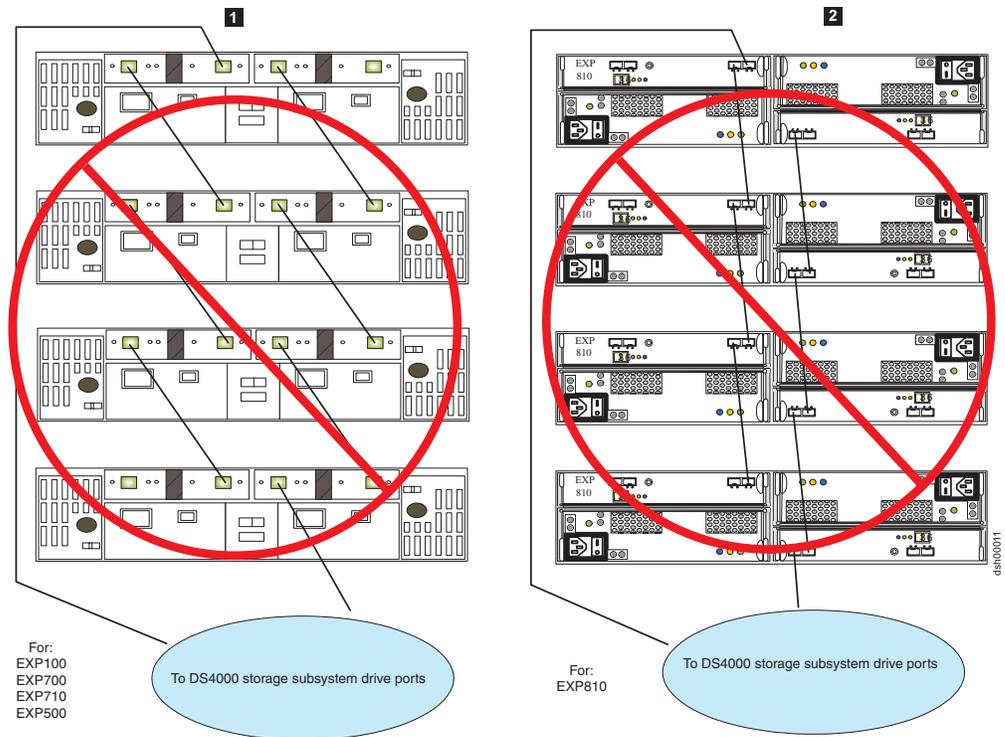
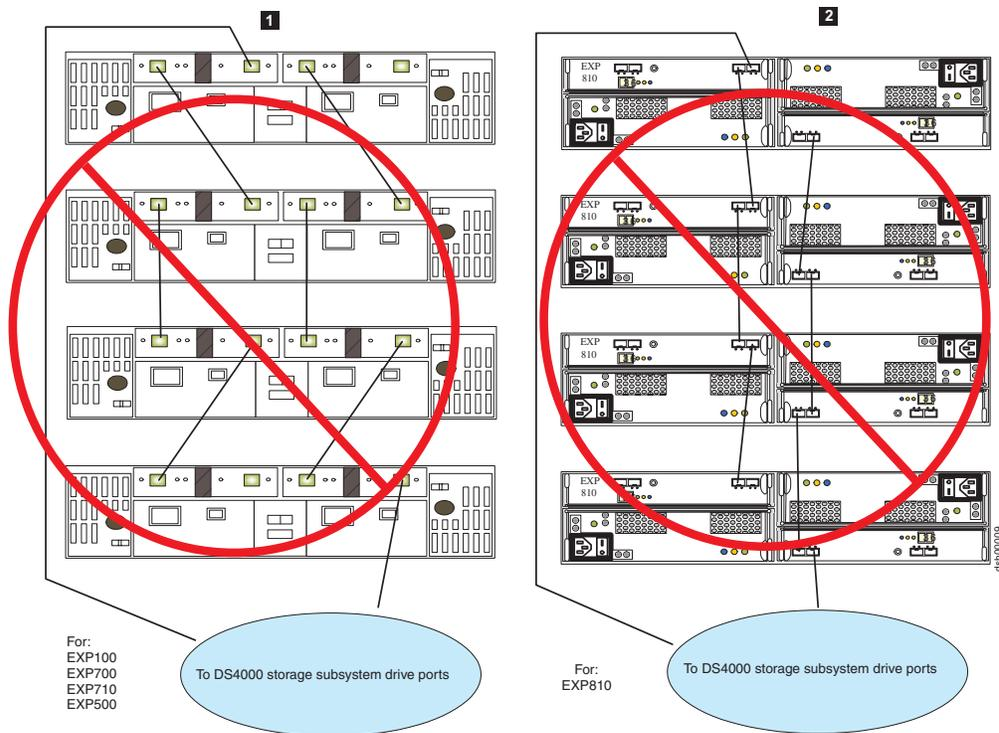

Figure 12. Method **not** recommended for alternate cable loop scheme, when connecting DS4000 storage devices
Figure 15. Unacceptable cable loop scheme for connecting DS4000 storage devices
IBM recommends against inconsistent use of any cable loop scheme. Figure 12 on page 31 through Figure 15 on page 34 show unacceptable cabling loop schemes.
**Attention:** Do not make the cable schemes illustrated in Figure 12 on page 31 or Figure 15 on page 34 because they will affect the diagnostic ability in the event of drive loop failures.
**Note:** The cable loop scheme in Figure 15 is unacceptable because of the random pattern between the storage expansion enclosures.